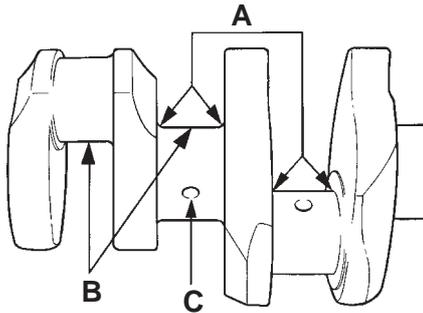

Fig. 73. Checking of recess radius
1. Grind the crankshaft in a crankshaft grinding machine to the undersize as per "Technical data". Surface fineness 1.6 Z ($\nabla\nabla\nabla$) for bearing races (B, Fig. 73) and recess radius are achieved by rubbing with emery cloth No. 400.